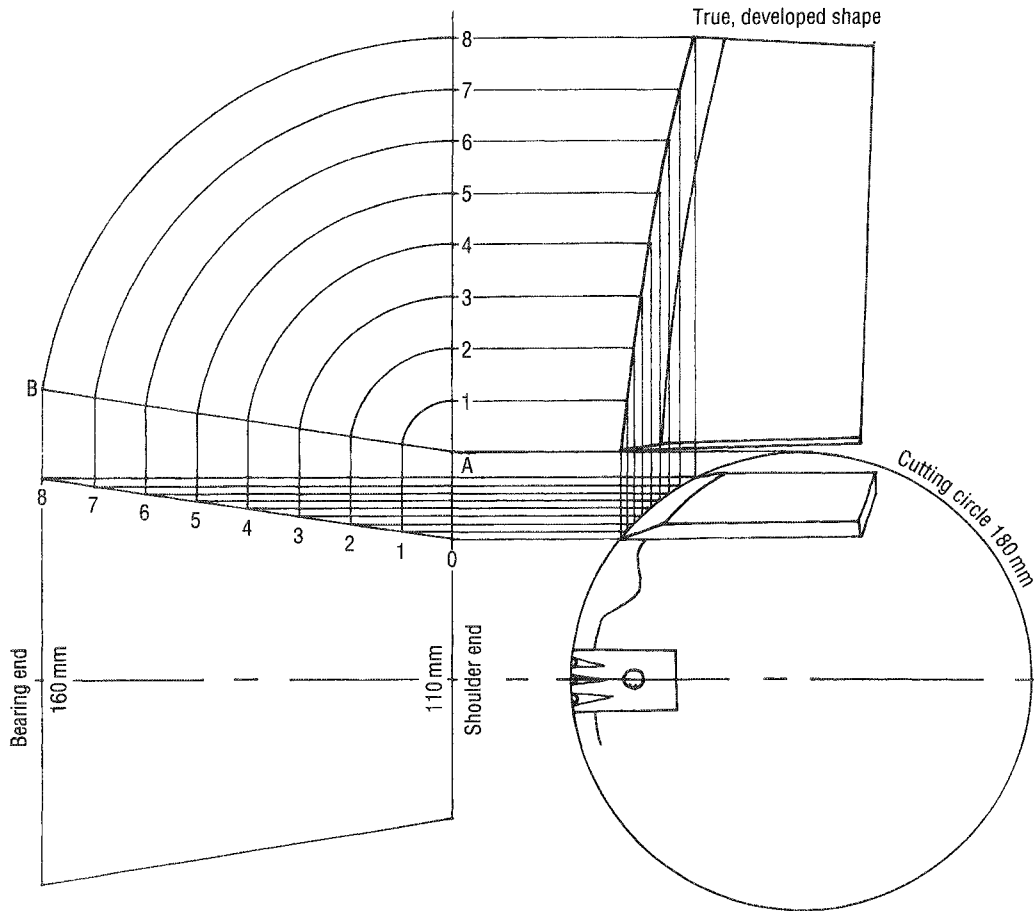

Fig. 4.51 Helical curve cutter development.
It is important to note that cutters with helical curves should not be swapped from one block to another. If blocks have different dimensions (length, diameter etc.) the helical curve will also be different. For this reason every tapered seat cutter block is supplied with a steel grinding template to match the cutter to when grinding/resharpening (**Fig. 4.51**). In the event of the template being lost or damaged the cutter shape can be geometrically developed as shown in **Fig. 4.51**. In the following description, reading this text by itself may confuse rather than help. It is a good idea to plot out the instructions as they are read, even if only rough sketches.
5. Split the block face line into equally spaced divisions. (Eight are used in **Fig. 4.51** but any number can be used. The more lines you use the more accurate the finished drawing will be but it can get very confusing if too many are used.)